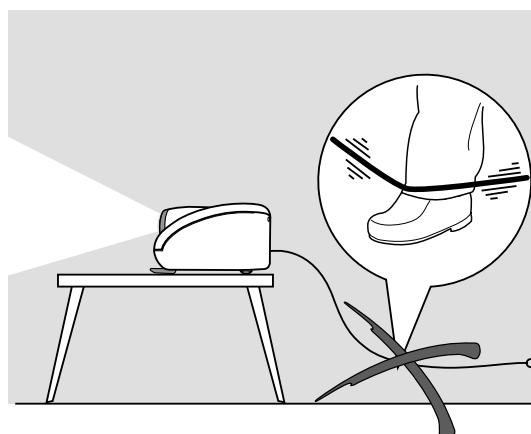

Fig. 34
- Position the cables carefully to avoid a trip hazard - especially in low light areas (Fig. 34).